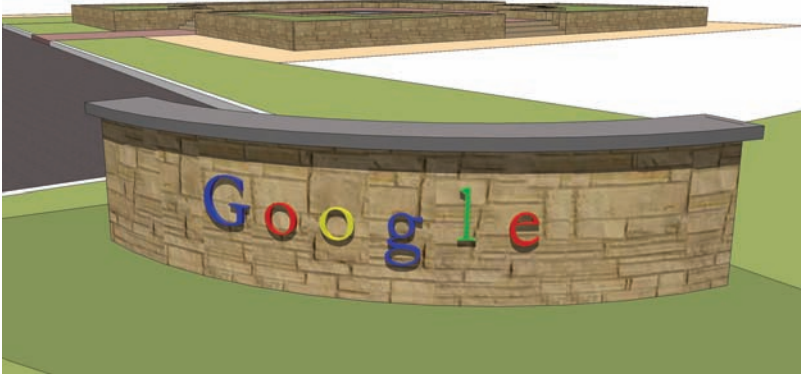

Fig. 7-46: Add color to the 3D text.
- f. Add color to each letter (Fig. 7-46).